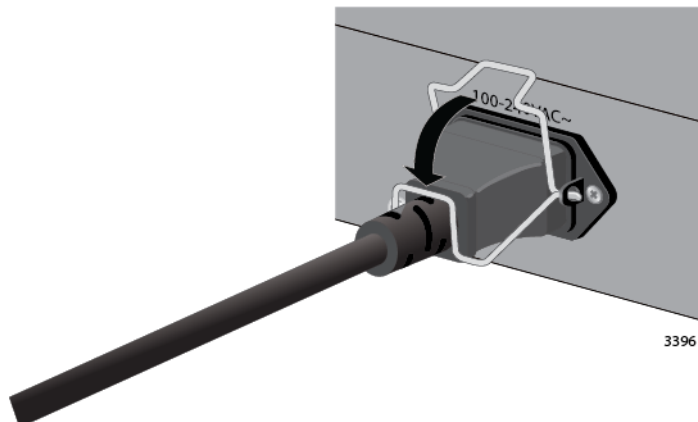

Figure 37. Lowering the Power Cord Retaining Clip
3. Lower the power cord retaining clip to secure the cord to the switch. Refer to Figure 37.